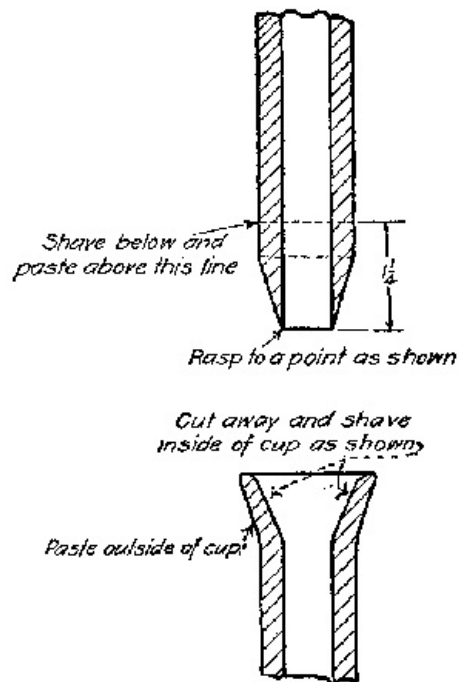

Fig. 15.
**Cup Joint.**—The materials necessary for the work (Fig. 15): 12 inches of ½-inch AA lead pipe, paste, rosin, ½ and ½ solder.